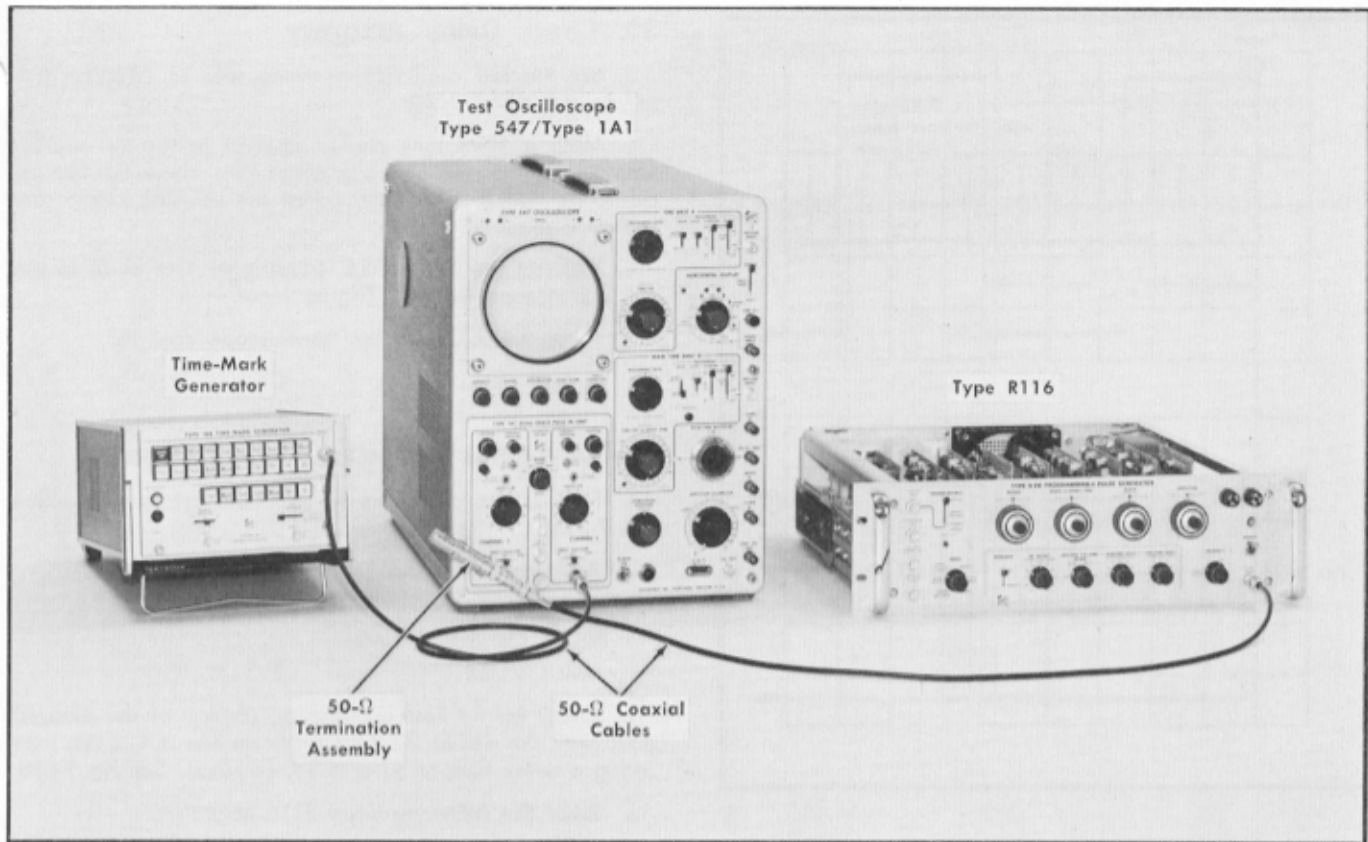

Fig. 7-30. Initial test equipment setup for calibration steps 29 through 32.
- a. Test equipment setup is shown in Fig. 7-30.
k. If R41 requires adjustment, reset the delay multiplier and the test oscilloscope sweep rate as given under Fig. 7-30 and recheck the delay timing adjustments as in steps b through i.
p. Adjust—C32 on the Series C card (see Fig. 7-30) if the delay time interval is not correct.